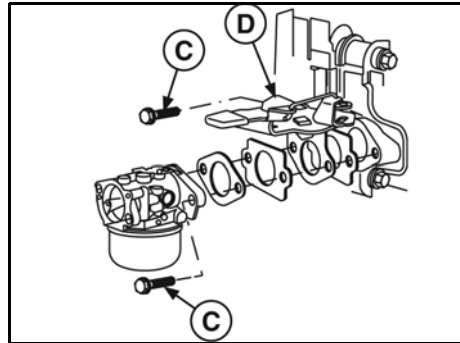

Figure 22
3. Place new gaskets or o-rings between control bracket (D, Figure 22), adapter (if equipped), and carburetor.
4. Position carburetor on control bracket or adapter and install screws (C). Torque to value listed in Section 12 - Engine Specifications.